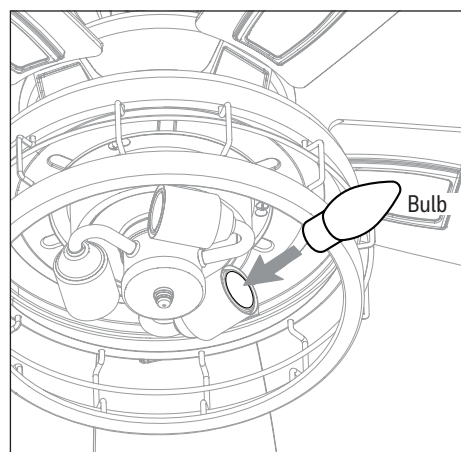

Figure 5.8
- Install the E26-base LED bulbs into the sockets of the light kit. **Important:** Make sure you allow the bulbs and light kit to cool before you replace the bulbs. (Figure 5.8).